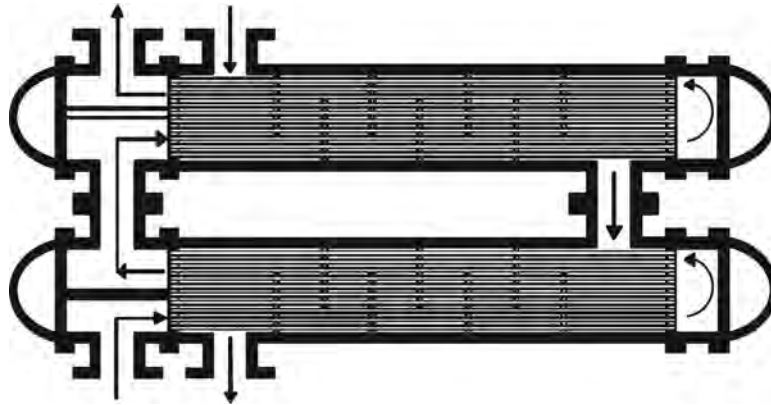

FIGURE 10.8 Flow arrangement for two heat exchangers in series.
- Figure 10.8 illustrates flow arrangement for two exchangers arranged in series.